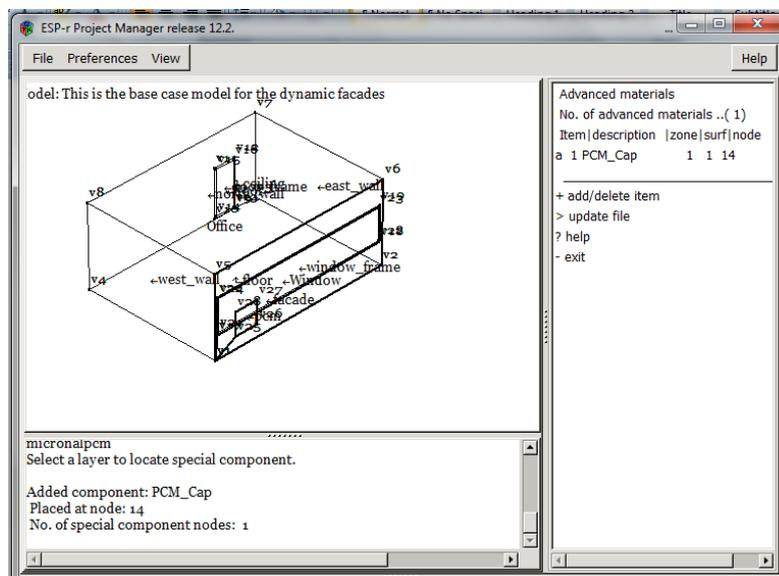

Figure 15
Step 15: The phase change material will now appear in the list of active materials and is now available to be used in simulations (figure 15).